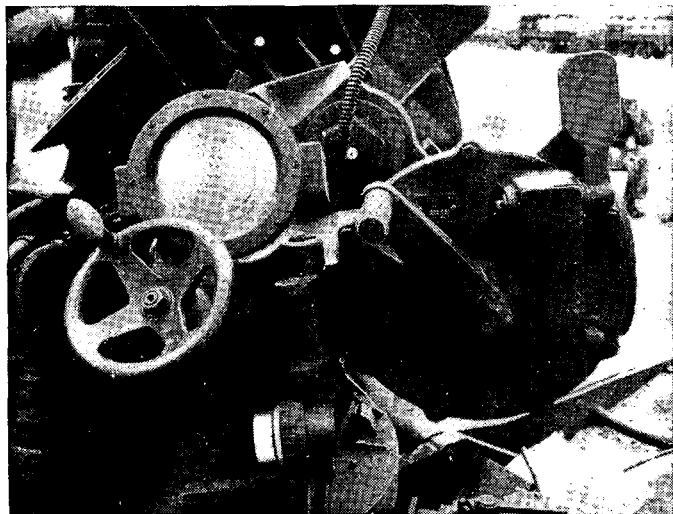
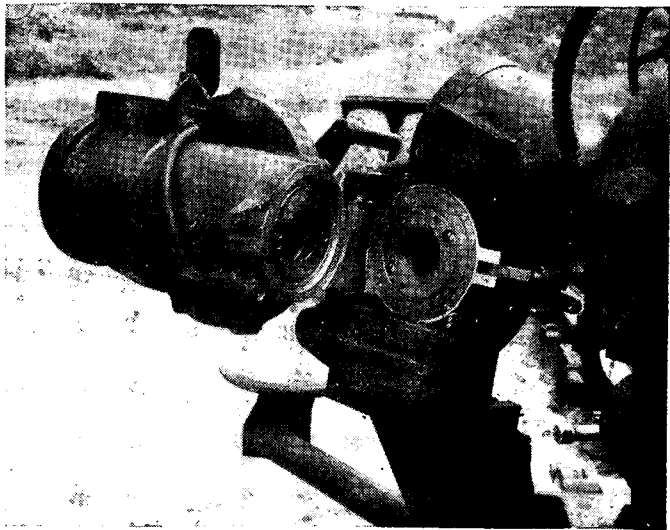

FIGURE 34.—Fuze setter M13—front view.
FIGURE 35.—Fuze setter M13—open.
■ 48. DESCRIPTION.—*a.* The fuze setter consists principally of the fuze indicator, the adjusting mechanism, and the setting mechanism. The indicator and adjusting mechanism are inclosed within the case (lower part below hinge, fig. 35) while the setting mechanism is housed within the body (upper part above hinge).
b. (1) The fuze indicator includes a fuze range scale, a mechanical index (outer pointer), an electrical index (inner pointer), and a standard a-c synchronous electrical receiving unit (fig. 34).
(2) The electrical receiving unit positions the electrical index at the position on the fuze range scale corresponding to the fuze setting transmitted from the director.
c. The adjusting mechanism is that mechanism which causes the fuze to be set at the particular fuze setting desired. A handwheel (fig. 34) is geared both to the mechanical index and to the adjusting ring (fig. 35). The function of the adjusting ring is to engage and hold fast the slot in the time setting cap of the fuze on the projectile. By turning the handwheel, the mechanical index is made to indicate a particular fuze setting and the adjusting ring is revolved to such a position that its pawl will stop the time setting cap on the fuze at the same fuze setting indicated by the mechanical index.
d. The setting mechanism, driven by the setting handle (fig. 34), contains a setting ring (fig. 35) and the setting ring pawl engages the slot on the body of the fuze and turns the projectile until the fuze body is properly positioned with respect to the time setting cap of the fuze.
■ 51. ADJUSTMENTS.—*a. To change rings in fuze setter.*—Open the fuze setter as shown in figure 35, remove screws and lock washers in each ring already assembled in the fuze setter, and remove this set of rings. If the rings stick in place in the
h. Whenever the cable receptacle (fig. 34) is not connected to the gun junction box, it should be stowed on the dummy receptacle with the cable wrapped around the front of the fuze indicator.